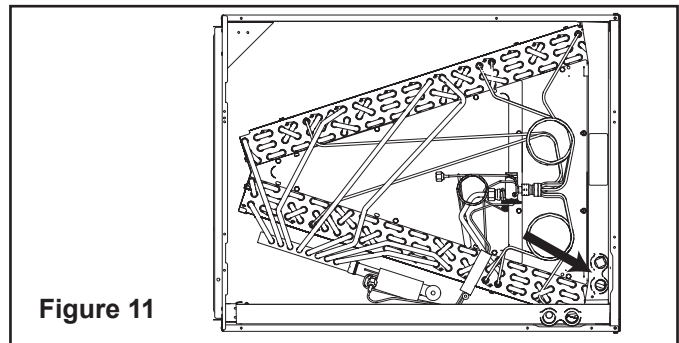

**Figure 10**
- f. Attach the coil to the furnace. Horizontal right coils will require connection brackets if no furnace flange is present. See Figure 9. If furnace flange is present, use field provided screws no longer than 1.5" to attach furnace to cased coil in the four obround holes on the sides of the cased coil. See Figure 10.